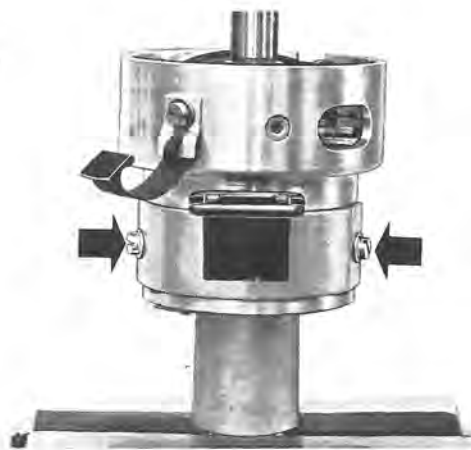

Fig. 3-64. Removing triggering contacts
5. Remove the triggering contacts, see Fig. 3-64.